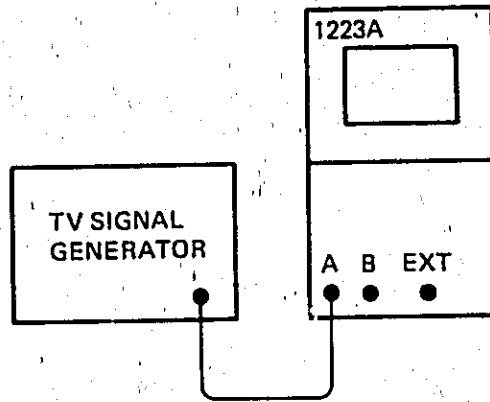

Figure 4-8. TV Trigger Test Setup.
1. Connect the TV Signal Generator to the 1223A as shown in Figure 4-8 and set the 1223A controls as follows: